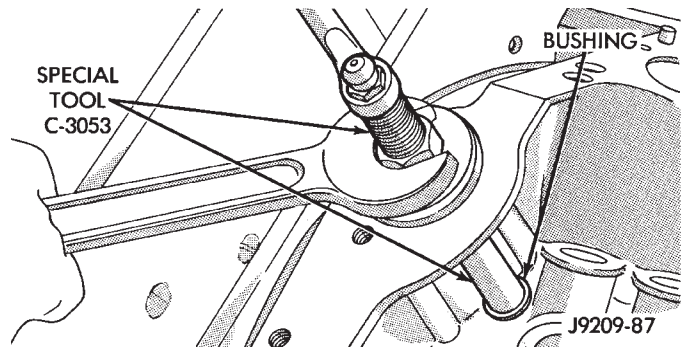

Fig. 16 Burnishing Distributor Driveshaft Bushing
(3) As the burnisher is pulled through the bushing, the bushing is expanded tight in the block and burnished to correct size (Fig. 16). **DO NOT ream this bushing.**